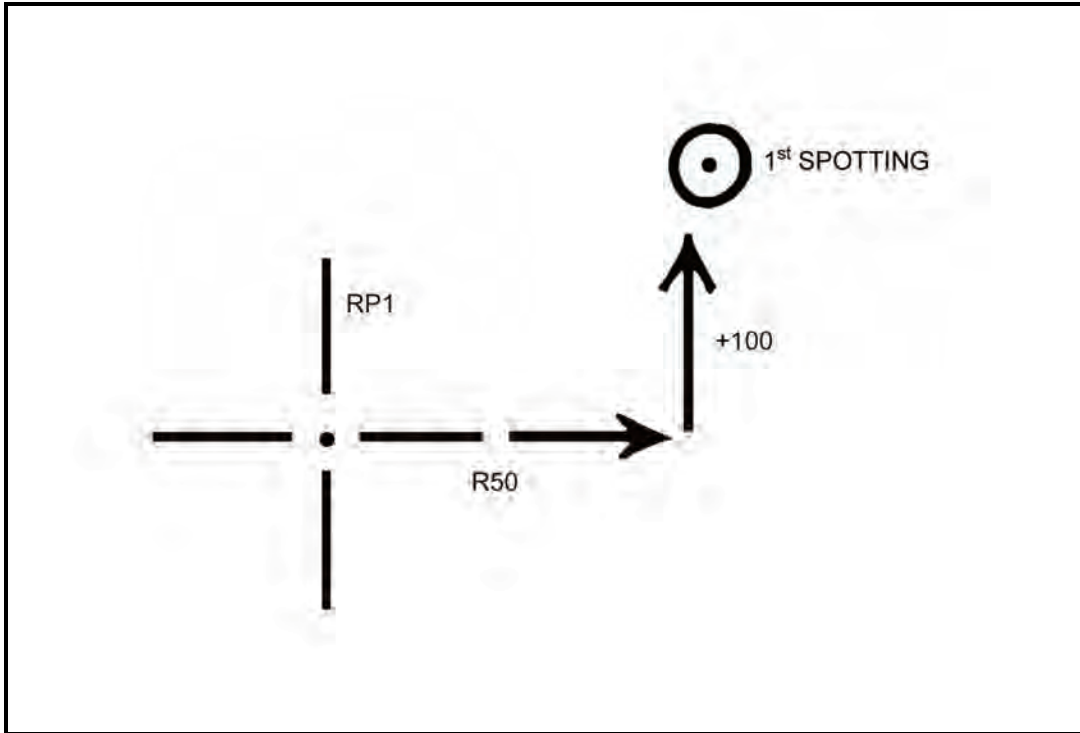

Figure 14-12. Determination of a spotting.
- (1) When the first round impacts, the radar operator sends the FDC the direction and distance to that round.
- (2) The FDC then indexes that direction and plots the round at the distance sent (the plot is made from the radar position plot, using the distance sent).
- (3) The FDC indexes the mortar RP azimuth and determines the spotting by comparing the round's impact plot with the RP plot. The FDC, acting as the FO, determines all spottings (Figure 14-12).